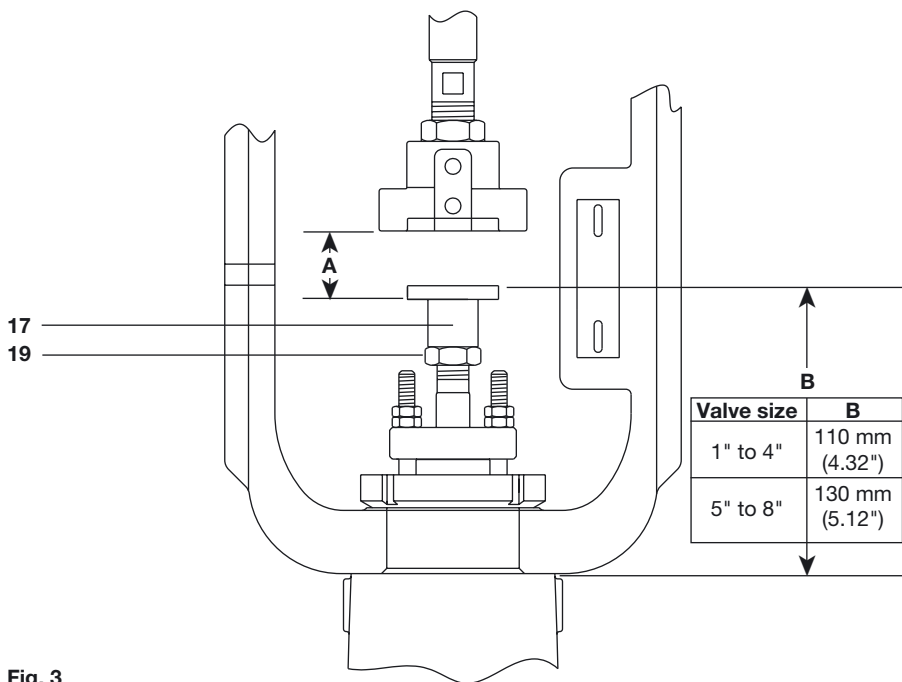

Fig. 3
### 3.2 Fitting the PN1000 spring-to-extend series actuator to the valve (Refer to Figures 3 and 4):
- Loosen and remove connector locking screws (12) and remove the anti-rotation plate (11).
- Fit the valve spindle adaptor (17) onto the valve spindle and manually push the valve plug to its closed position.
- Place the actuator yoke over the valve spindle and locate onto the bonnet shoulder. Locate and tighten the valve mounting nut (20) to the recommended tightening torque (Table 1, page 14).
- Adjust the position of the valve spindle adaptor (17) so that the distance 'A', as shown in Figure 3, is equivalent to the desired travel indicated on the actuator travel indicator plate (18), then tighten the lock-nut (19) to the recommended torque, see Table 1, page 14.
- Fit the anti-rotation plate (11). Fit the connector locking screws (12) and tighten to the recommended torque (Table 1, page 14).
### 3.3 Fitting the PN2000 spring-to-retract series actuator to the valve (Refer to Figures 3 and 4):
- Place actuator yoke over the valve spindle and locate onto bonnet shoulder. Locate and tighten the valve mounting nut (20) to the recommended tightening torque (Table 1, page 14).
- Adjust the position of the valve spindle adaptor (17) so that the distance 'B' is equivalent to the value shown in Figure 3, then tighten the lock-nut (19) (see Table 1, page 14).